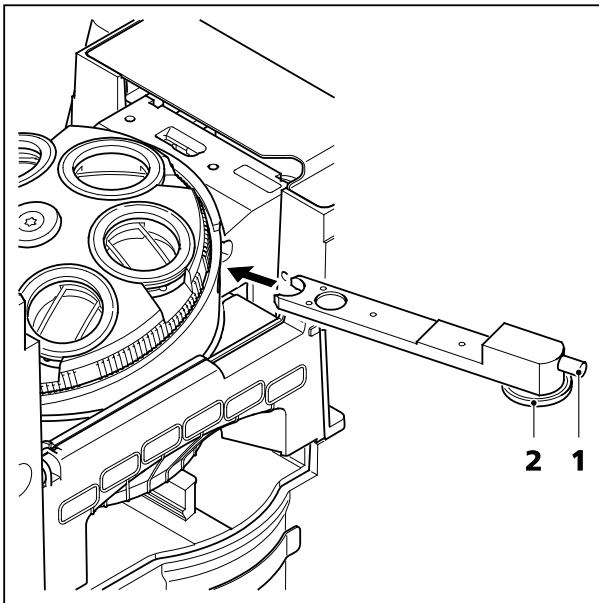

Fig. 159 TIC slider 6x20
- Insert TIC slider 6x20 (see Fig. 159) into the slot below the nosepiece. In the field of view, colored interference fringes appear.
- To select the structure to be measured, turn selector wheel (Fig. 159/2) of TIC slider or modulator turret until the interference fringe pattern is vertical to the splitting direction of the specimen. Use the adjusting screw (Fig. 159/1) of the TIC slider to shift the interference fringes.